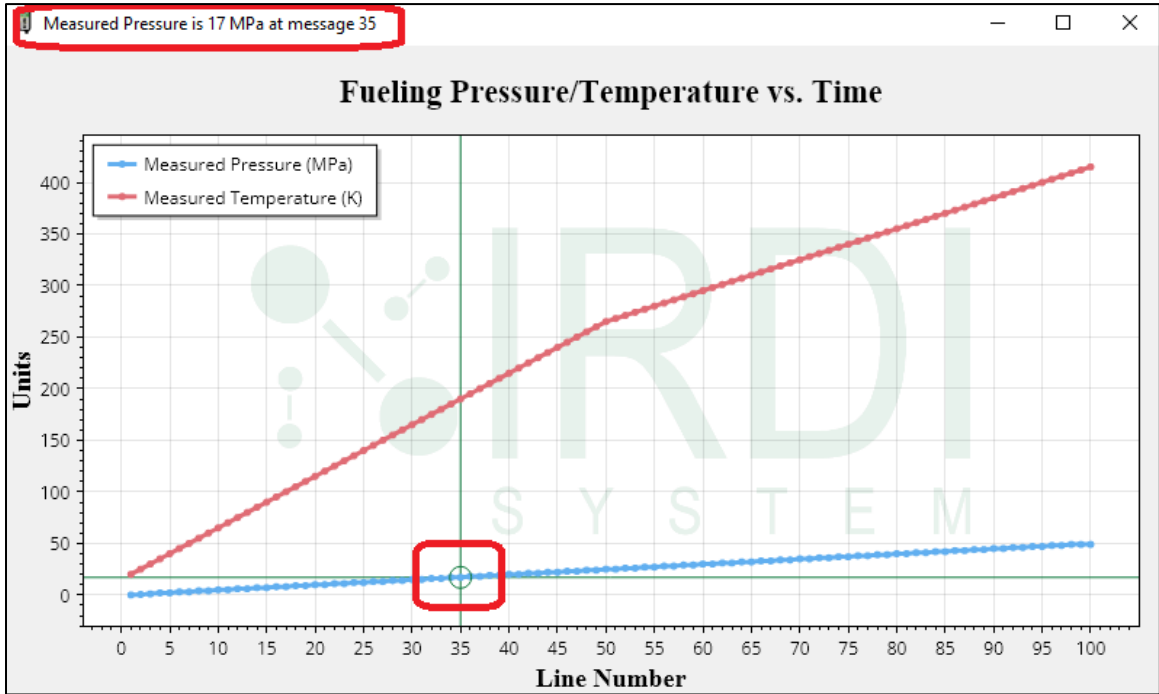

FIGURE 6-51 HHT TEST PATTERN GENERATOR SOFTWARE –CHECKING GRAPHED PRESSURE
STEP 4	<p>The graph screen shows the temperature and pressure values for all IRDI messages in the test pattern.</p> <p>To check the value of pressure at any point in the graphed data, use your mouse to hover the cursor over the blue line on the graph, and click the mouse at the location you want to check – a circle will appear at that location on the blue line – see Figure 6-51. The pressure value at the point where the cursor is located will be displayed at the top left of the popup window, along with the associated IRDI message number.</p>